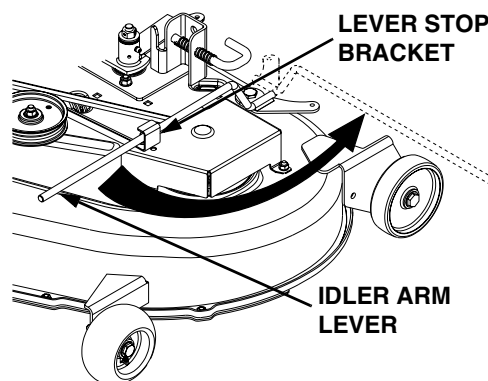
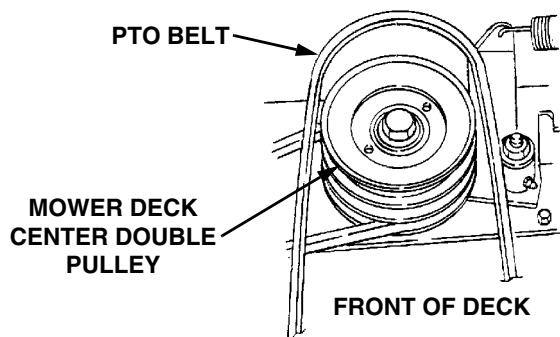

Figure 35
Figure 36
2. Lower the tractor implement lift handle to its lowest setting. Disengage the deck idler arm lever from the stop bracket and release the spring tension by rotating the lever out and rearward (See Figure 35).
3. Remove the rearward end of the PTO belt from the upper pulley of the deck center double-pulley (See Figure 36). Engage the deck idler arm lever back into the stop bracket (Refer to Figure 35).